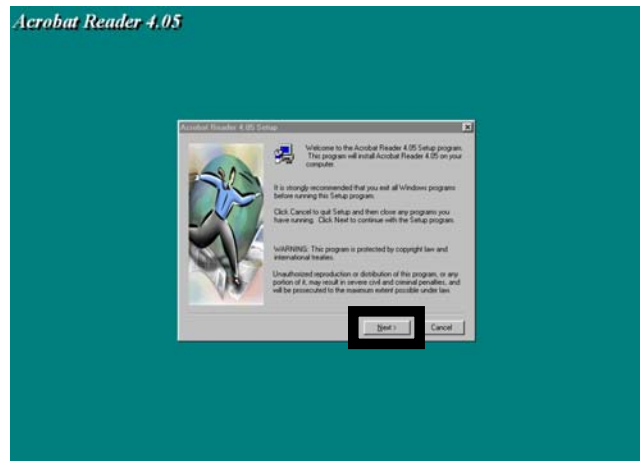

Figure 3-2
5. After re-booting the unit will install Acrobat® Reader. After Acrobat® has been loaded the unit will once again re-boot. (Figure 3-2)